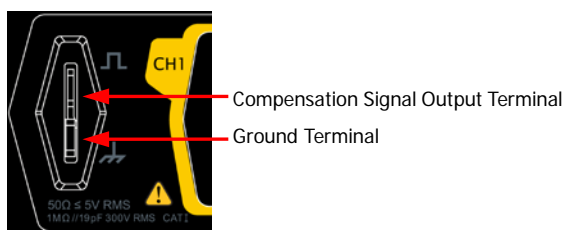

Figure 1-10 To Use the Compensation Signal
2. Connect the ground alligator clip of the probe to the "Ground Terminal" as shown in Figure 1-10 below.
3. Use the probe to connect the input terminal of CH1 of the oscilloscope and the "Compensation Signal Output Terminal" of the probe, as shown in Figure 1-10.